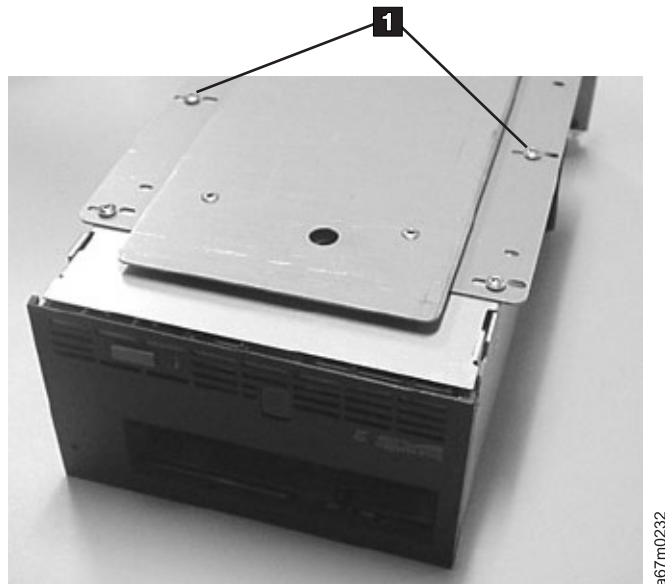

Figure 139. Removing the Four Screws
- ___ 4. Remove the four screws (see **1** in Figure 139).